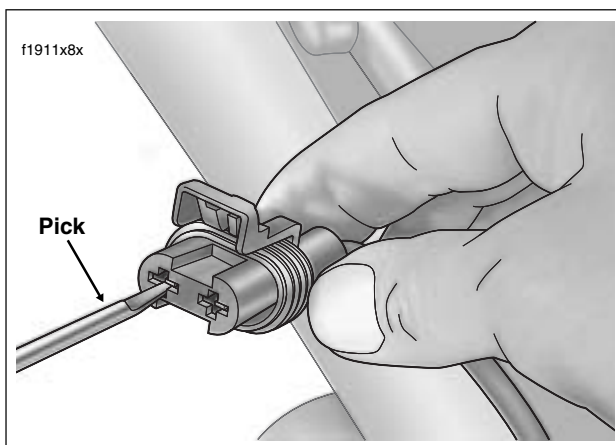

Figure 3-12. Remove Socket Terminals From Stator/Voltage Regulator Connector
- b. Gently insert pick (Snap-On TT600-3) into the cavity about 1/4 inch (6.4 mm) or until it stops, and pivot the side of the pick toward the terminal body. Repeat step on other cavity. See Figure 3-12.